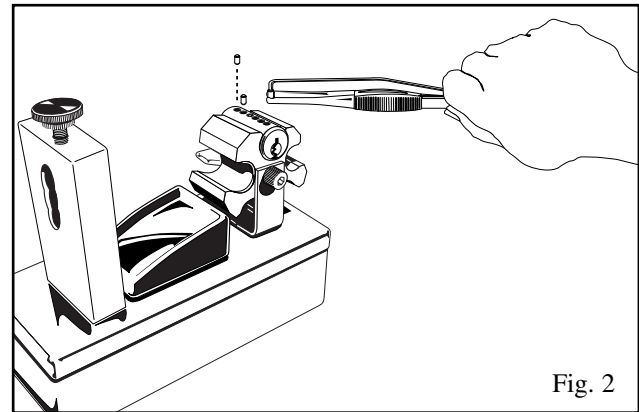

Fig. 2
2. Load bottom pins into plug as shown in Fig. 2.